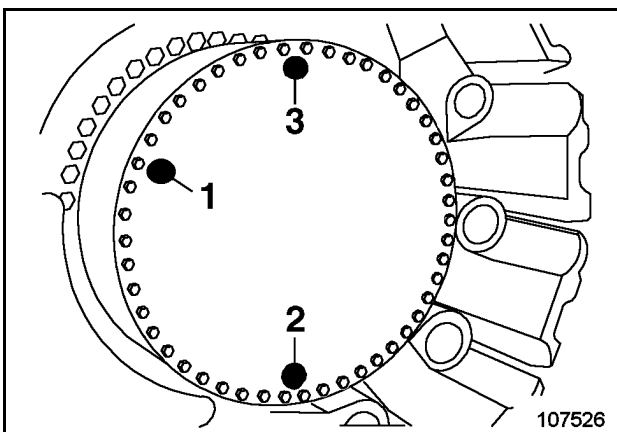

Fig. 3-85:
- Move the hydraulic shovel into such a position that the screw plugs (1, 2 and 3, Fig. 3-85:) are in the displayed position.